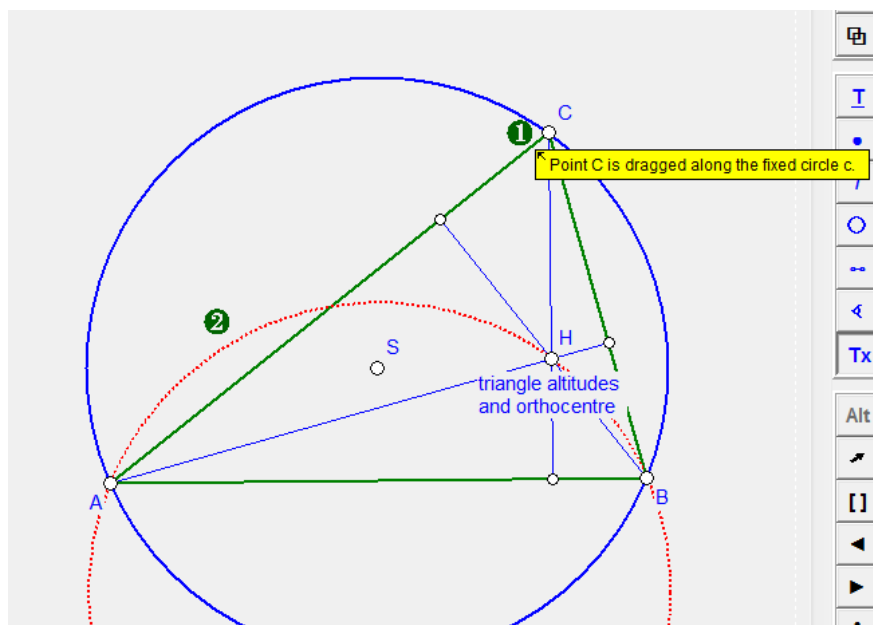

Figure 12
There are also two types of auxiliary objects in OK Geometry. The first type is the **text object** (plain text in the drawing), which can be used to clarify a construction or for other purposes. The second is the **marker object** (on 'empty' space) which consists of a symbol (①, *, ?, etc.) and text that is only visible when the mouse pointer is positioned on the symbol (Figure 12). Markers are used for different types of comments that should be selectively visible. You can as well comment geometric objects by placing a marker on them. The comment on an object appears only when the mouse is positioned on that object.